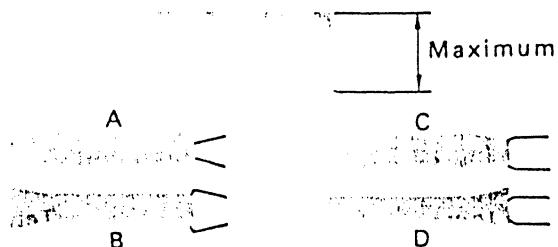

Fig.22 Minimum FM output (incorrect examples)
- b) If there are waveforms as shown by A or B in Fig.22, carefully adjust the supply guide roller height so that the waveform appears as shown by E, F, or G in Fig.23. At this time, if the waveform fluctuates, adjust to the point of minimum fluctuation.
- c) If the FM waveform appears as shown by C or D in Fig.22, carefully adjust the take-up guide roller height to obtain a waveform such as shown by E, F, or G in Fig.23.